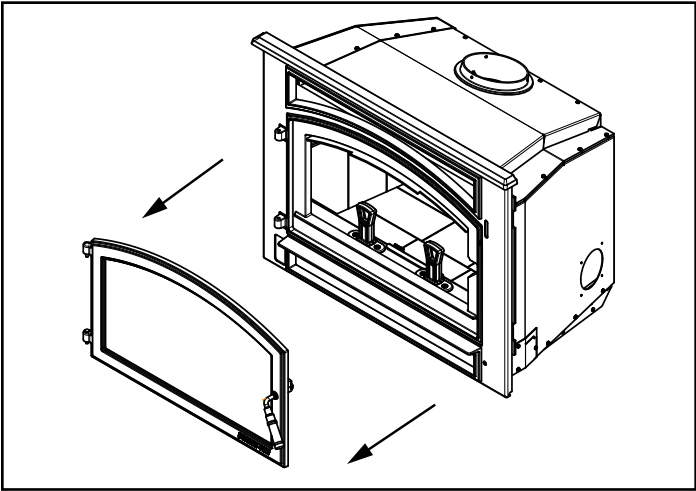

Figure 5.7
2. Remove door by unlatching handle from face and lifting up on door, set aside by laying it onto a protective surface (**Figure 5.7**).